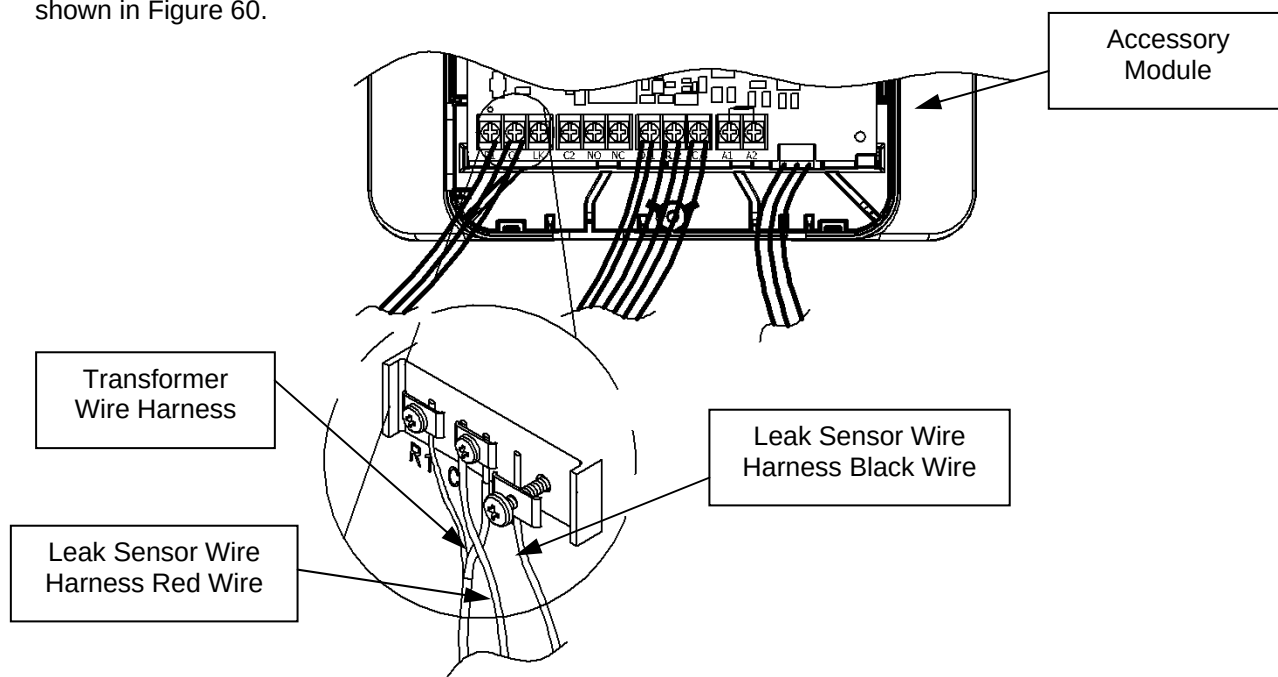

Figure 60
Step 9: Insert the black wire, from the Leak Sensor wire harness, under the screw labeled “LK.” This is shown in Figure 60.